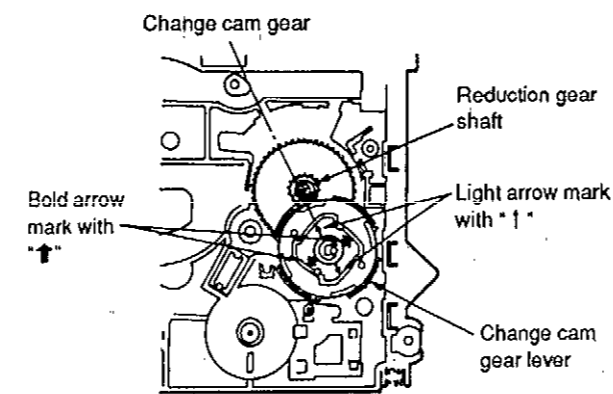

Fig. 2
4. Install the change cam gear. (See Fig. 2.)